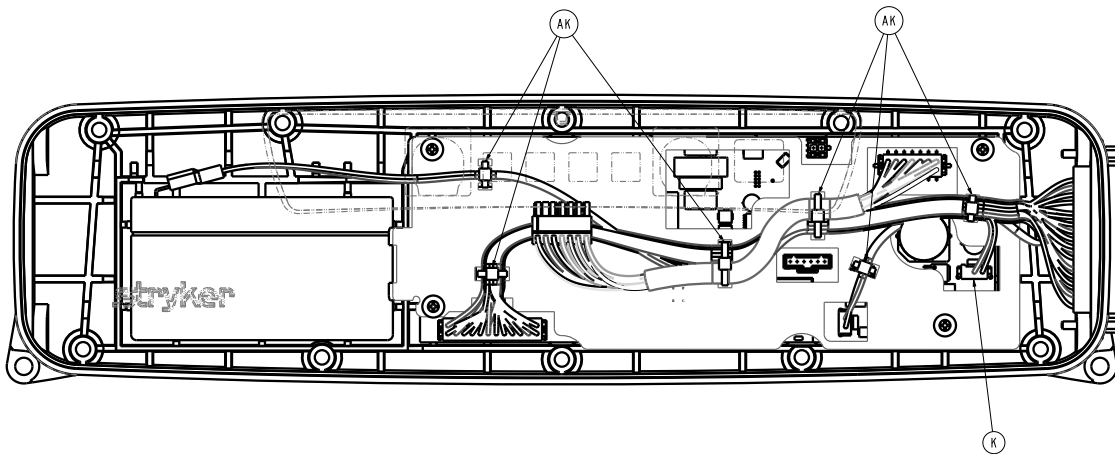

Figure 15 – Cable ties
11. Using wire cutters, cut the one cable tie (AK) that secures the power cable to the cable routing tray (Figure 15).
9. Using wire cutters, cut the four cable ties (AK) that secure the 37-pin cable to the cable routing tray (Figure 15).